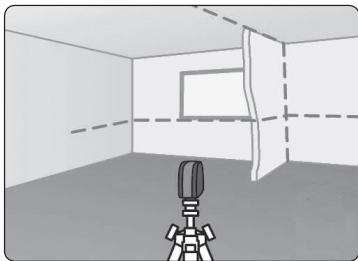
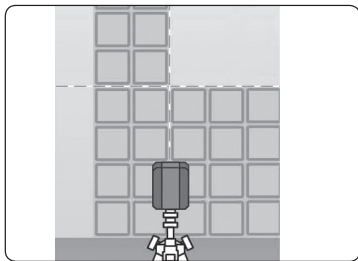

Fig. 3
Fig. 4
1. Place the device on a straight rigid surface or screw it on to the thread of a tripod (fig. 3 or fig. 4) (the tripod is not included) or the supplied magnetic surface attachment holder (fig. 1) and point the laser beam window at the measured surface.